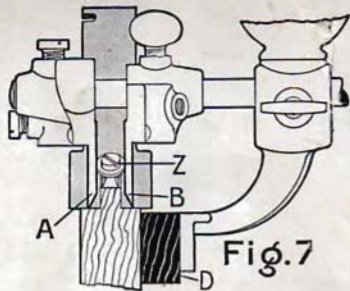

Fig. 7
Fig. 7—MATCHING (Tongue)—Insert the tonguing cutter and set the Stop (Z) attached to same, at the proper point to obtain the height of the tongue desired. Fence (D) regulates the position of the tongue on the edge of the board. The Gauge (G) and the Spurs are not used. Boards varying from three-quarters of an inch to one inch in thickness can be matched in the center